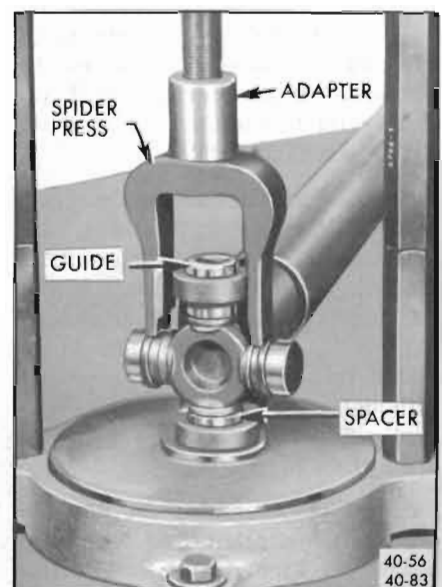

Figure 40-83—Removing Bearing With Guide and Spacer in Place
6. Install Spacer J-9522-5 adjacent to the bearing as in Step 4 and remove the bearing. See Figure 40-83.